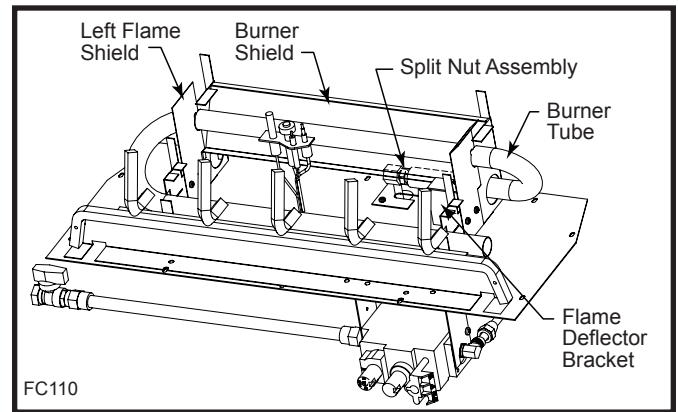
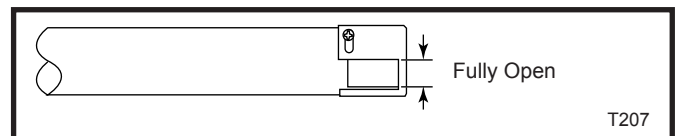

Fig. 58 Remove flame shield, flame deflector bracket and burner shield. Remove air shutter and slide burner tube to the right.
Fig. 59 Air shutter setting for propane/LP gas.
1. Remove the two (2) screws holding the pilot to the burner bracket.
2. With suitable tool, remove screws holding left flame shield. Remove flame shield. DO NOT discard. (Fig. 58)
3. Remove flame deflector bracket from burner shield (one screw) and remove burner shield. (Fig. 58)
5. Loosen split nut assembly from air shutter. (Fig. 58)
6. With suitable tool, replace natural orifice with correct propane/LP gas orifice furnished with conversion kit. Tighten orifice with suitable tool until gas tight. (Fig. 58)
8. Set the air shutter opening for propane/LP gas. (Fig. 59) Tighten air shutter screw. Replace burner shield making sure all four (4) tabs hook over side log/burner brackets. Replace flame deflector bracket. Replace left flame shield. (Fig. 58)